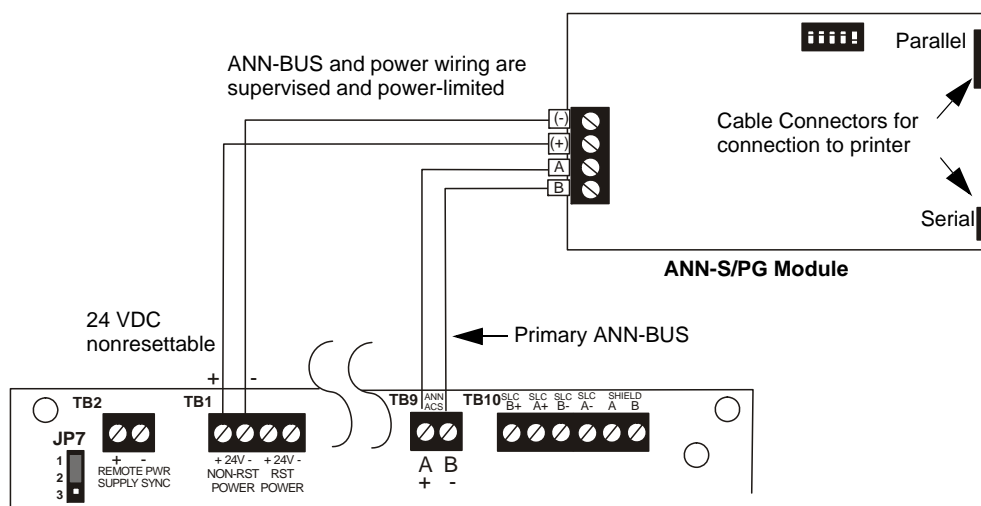

Figure 2.22 ANN-S/PG Connection to FACP
2. Connect the ANN-S/PG to the FACP as illustrated in Figure 2.22
5. Connect a printer to the ANN-S/PG Parallel or Serial connectors (refer to Figure 2.22). Only one printer can be connected.